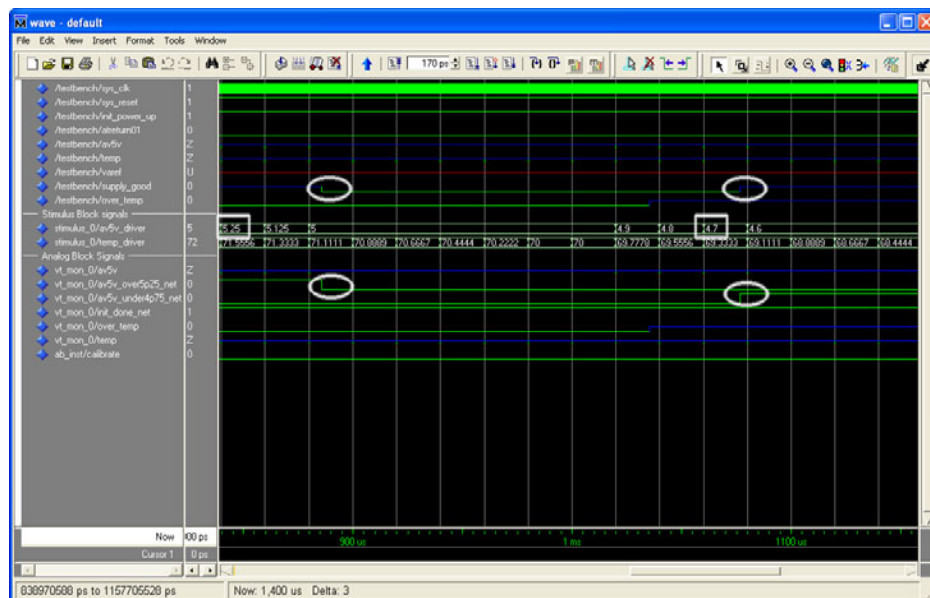
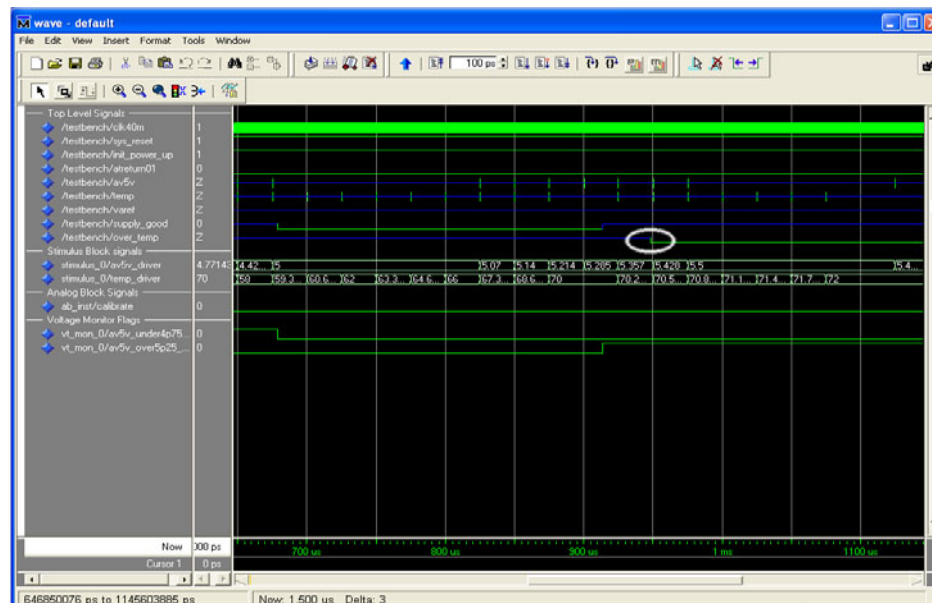

Figure 4-2 · Effect of the AV5V Input Testbench after Simulation
Figure 4-3 · Effect of the Temp Input Testbench after Simulation
4. Click the **Simulation ModelSim** button. This opens the ModelSim user interface. The results of the simulation for the VT\_Mon design are shown in Figure 4-2 and Figure 4-3 on page 20.
Figure 4-2 demonstrates the effect of the varying voltage on the AV5V input. The stimulus\_0/av5v\_driver line shows that part of the waveform where the voltage is initially 5.25 V and ramps down below 4.75 V between 800 and 1100  $\mu$ s. As specified by the AV5V maximum voltage threshold flag, and visualized by the /testbench/supply\_good
The temperature monitoring threshold flag in the Fusion ASB has been set to assert when the temperature exceeds 70° C and will deassert when the temperature is less than or equal to 70° C. Figure 4-3 demonstrates the effect of a varying temperature on the Temp input of the design, where the temperature is rising from 50° C and passes through 70° C. Note that the testbench/over\_temp signal, which has been deasserted, asserts as the temperature passes above 70° C, and the /testbench/over\_temp output simultaneously asserts as directed by the threshold detection logic. Any delay in the actual assertion or deassertion as compared to the input temperature is a function of the specified sampling rate and resolution of the analog to digital converter. The Temp testbench shows the over\_temp assertion/assertion as the temperature rises above the specified threshold of 70° C.